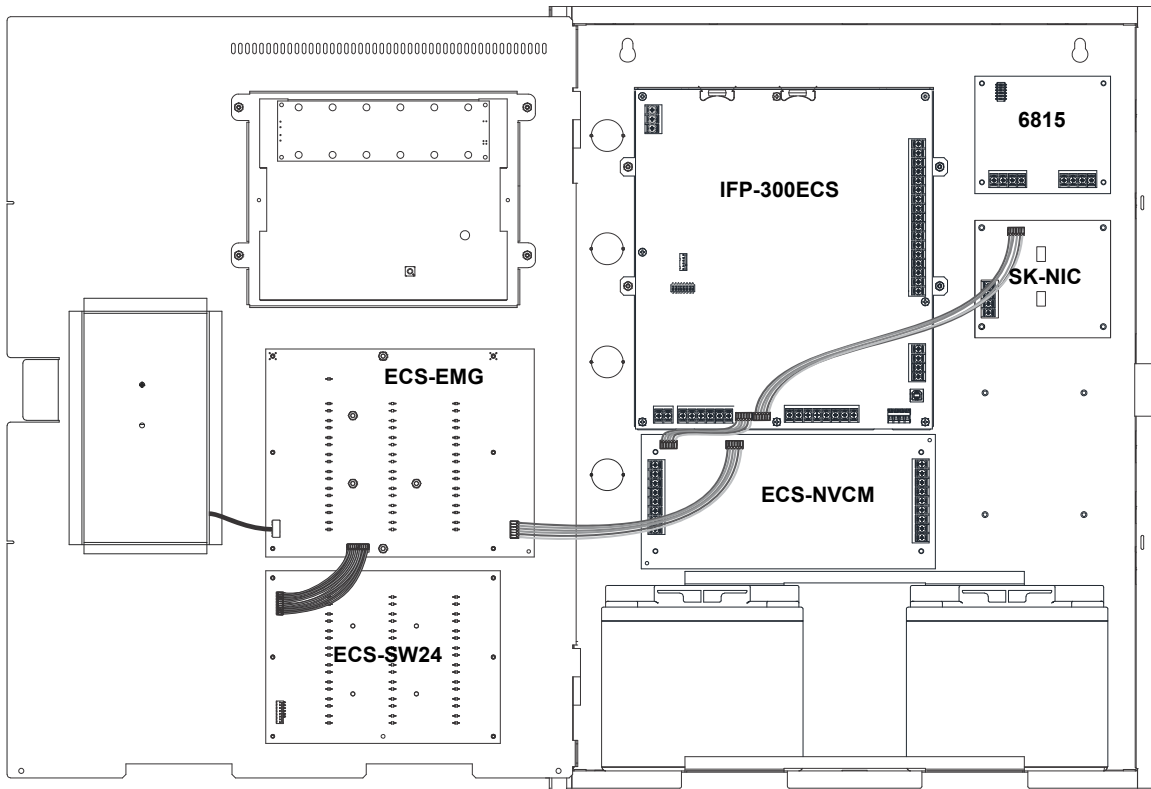

Figure 4.14 Wiring Harness Connections Between the ECS-NVCM/ECS-SW24 to the IFP-300ECS
4. Install the ECS-SW24 on the six mounting studs located on the inside of the dead front panel. See Figure 4.14 for IFP-300ECS or Figure 4.15 for IFP-2100ECS.
5. For the IFP-300ECS, connect one end of the wiring harness (P/N 130398 supplied) to the ECS-EMG and the other end to the ECS-SW24 as shown in Figure 4.14.